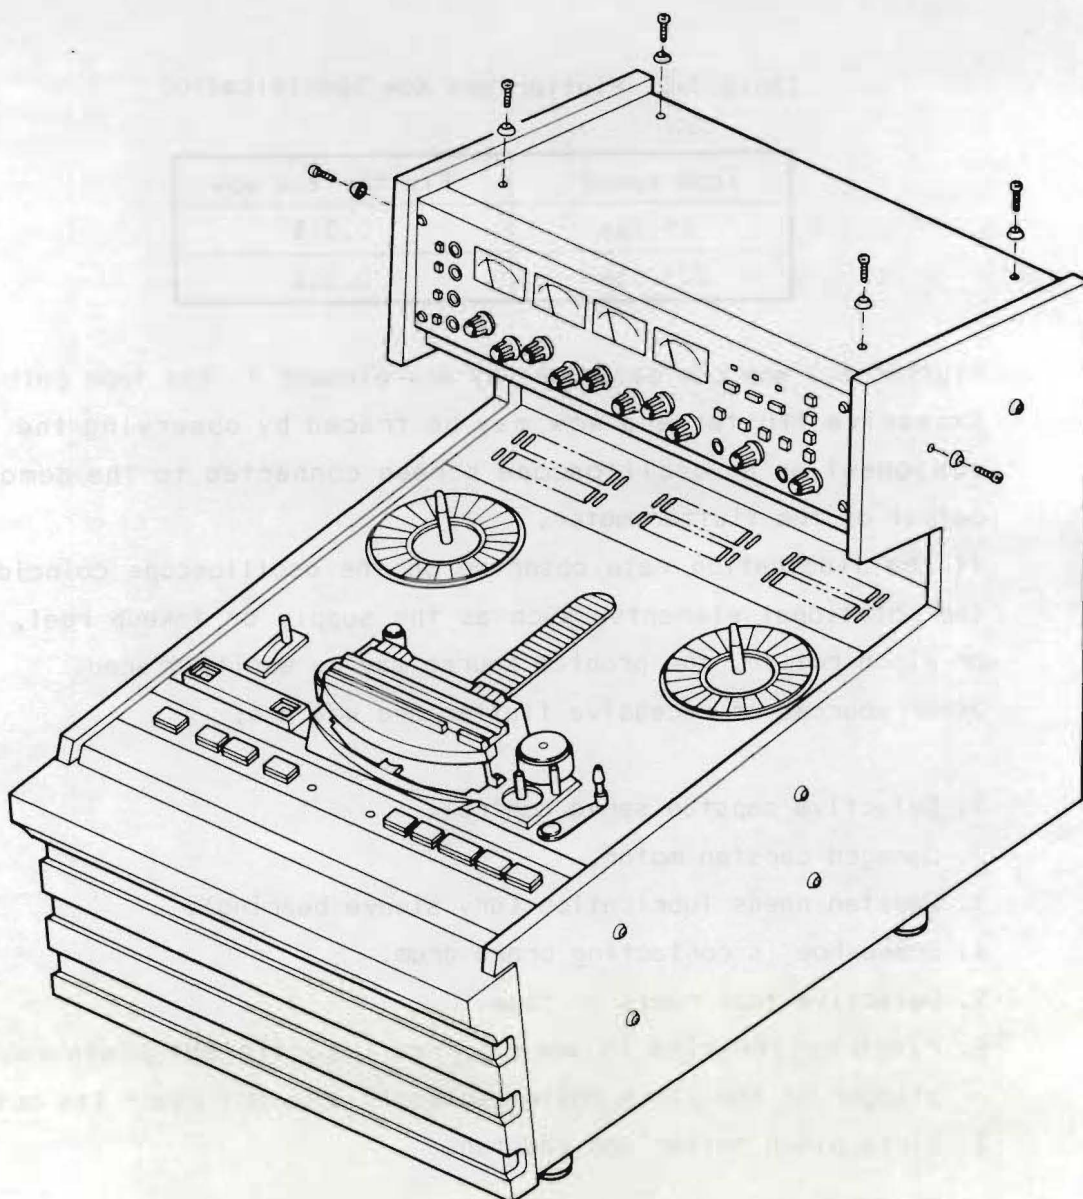

Figure 7-3 Electronics Access
1. Remove four screws on the electronics top panel as shown in Figure 7-3.